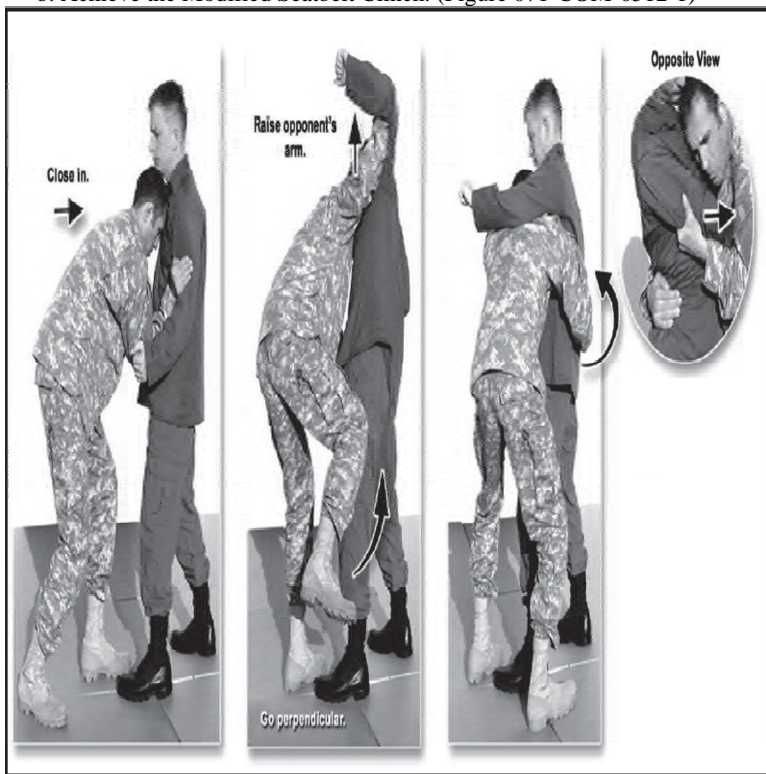

Figure 071-COM-0512-1. Modified Seatbelt Clinch.
(1) Face your opponent, and assume the Fighting Stance just outside of kicking range.
(2) Tuck your chin, and use your arms to cover your head while aggressively closing the distance.
(3) Drive your head into your opponent's chest.
(4) Move your cupped hands to your opponent's biceps.
(5) Aggressively fight for one of the dominant clinch positions.
b. Achieve the Modified Seatbelt Clinch. (Figure 071-COM-0512-1)